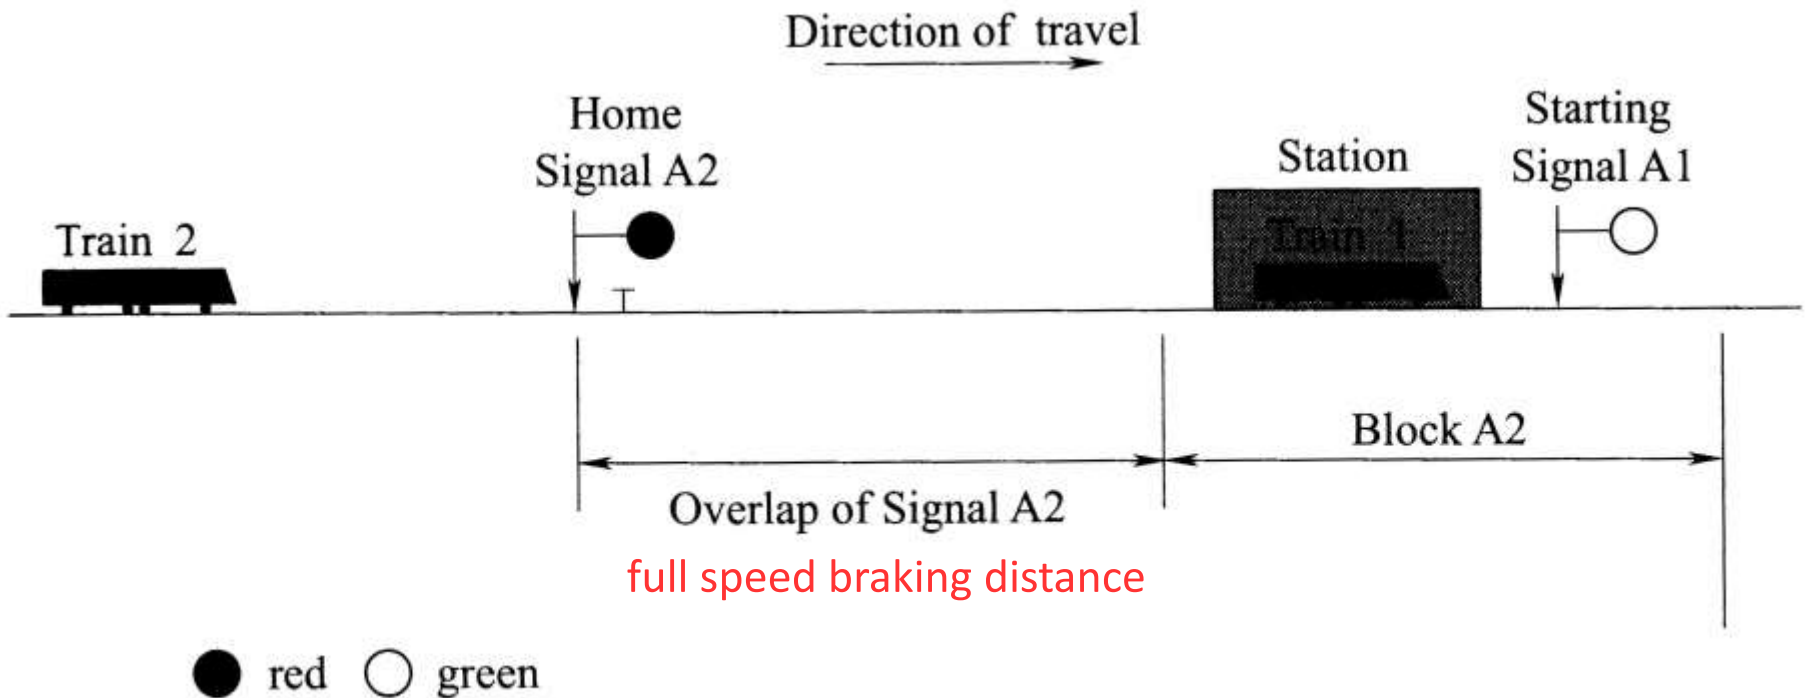

Fig. 7.2 Single-home signaling
- ◆ To see how this works, we begin with an example (Fig.7.2) of a conventionally signaled station with a starting Signal A1 (green) and a home Signal A2 (red) protecting a train (*Train 1*) standing in the station.